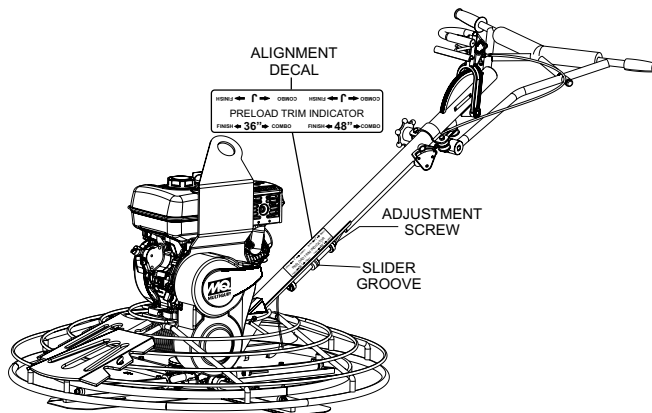

Figure 14. Spring Pre-Load Adjustment
2. Locate the spring pre-load adjustment screw (Figure 14) on the underside of the handle tube.